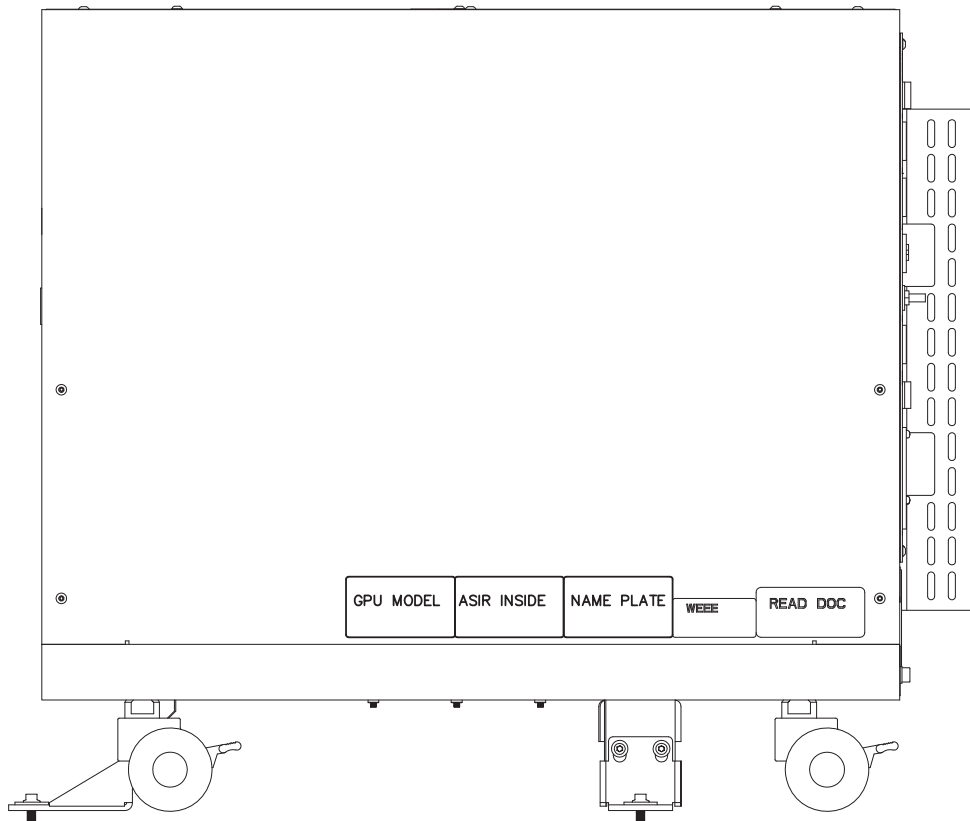

Figure 4-21 Attach ASIR Rating Plate
- 2.) Attach the name plate near the rating plates on the right side cover of console. See Figure 4-21